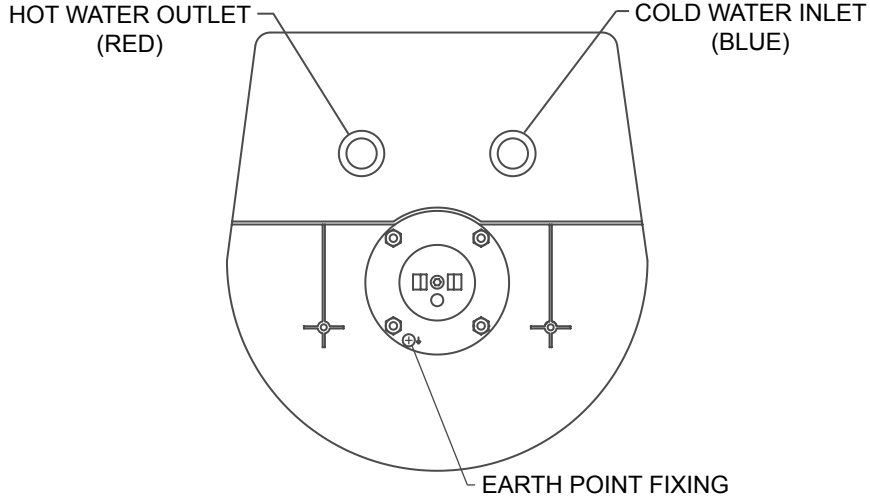

FIGURE 06: CORRECT ORIENTATION OF ELEMENT PLATE
- 6.1.10 Refit the element plate assembly, fitting a new sealing gasket if required. Note the correct orientation of the element plate by reference to Figure 06, page 12. Refit the capillary sensors, retaining plug and earth wire. Refit the cover, insert the two self-tapping screws to secure and refit the temperature control knob.